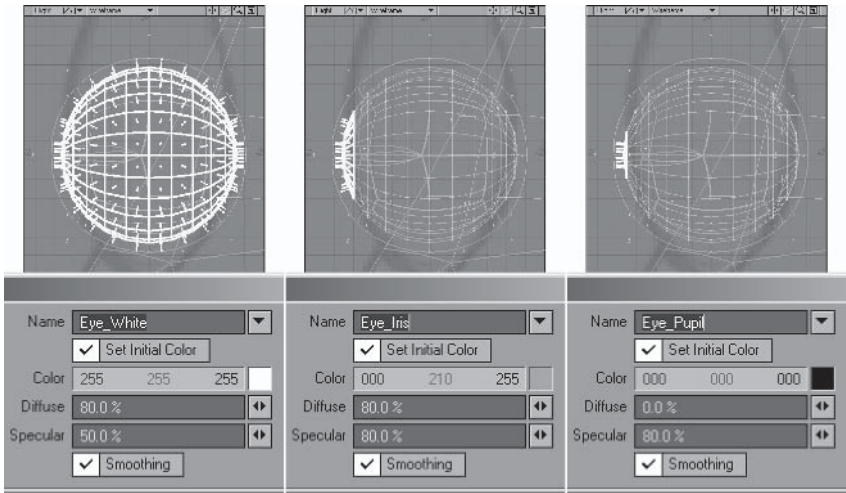

Figure 3.4-2. You can hide the eyelids if you want easier access to the eyeballs.
2. Select the polygons of the eyeballs and **Change Surface** to **Eye_White**. Deselect all but the front two segments of the eyeballs and **Change Surface** to **Eye_Iris**. Deselect all but the front poles of the eyeballs and **Change Surface** to **Eye_Pupil**. Copy the other settings for the eye surfaces from Figure 3.4-2.